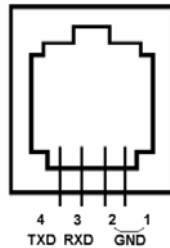

Figure 6. Serial port pin out on an 8407 hand controller
- Serial port (*i.e.*, RS232 port): connect the HC to a Computer for HC firmware upgrade via a RS232-RJ9 cable. The pin out of the serial port is shown in Figure 6.